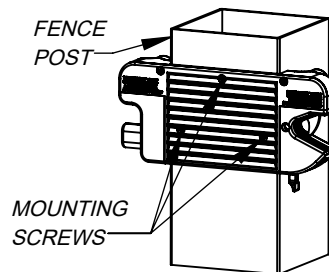

Figure 5
Hold latch at desired height on the fence post. Install (3) flat head mounting screws into the side of the latch (Figure 5). Install (1) flat head mounting screw in button housing (Figure 6). Install (1) flat head screw into latch housing (Figure 7).